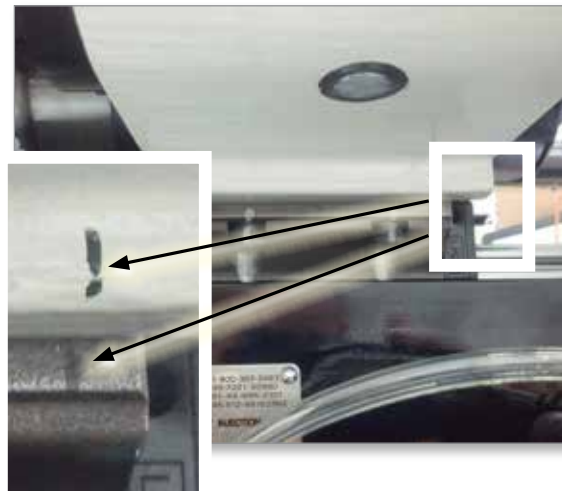

Figure 9-5 Linear guide position
- Mark the position of the linear guide relative to the injection housing. See Figure 9-5.